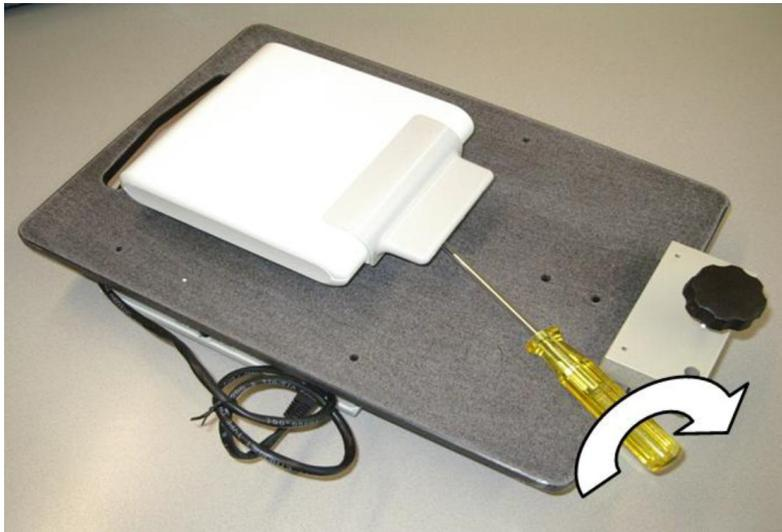

Figure 11. Removing the cover from the Base Station.
1. You must remove the Base Station with the omni directional antennas from the plastic board. To do that, use a screw driver as shown in Figure 11. Removing the cover from the Base Station. and disconnect the RJ45-cable.